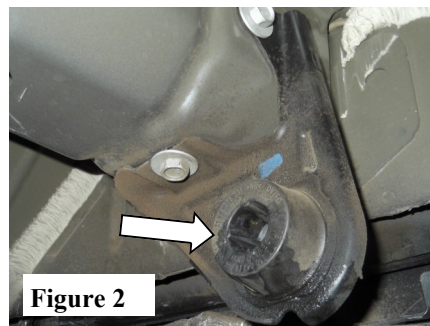

Figure 2
3. Remove hangers from rubber isolators and carefully remove the right-side muffler from the vehicle. (See Figs. 2 & 3)